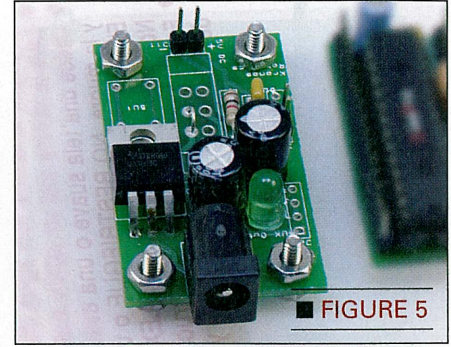

FIGURE 5
• **STEP 3:** Assemble the Kronos Robotics five-volt regulator board and attach it to the base. To do this, place the regulator on the base and mark the location of the four holes. Drill four 5/32 holes on the marks, then install #4 machine screws and nuts as shown in Figure 5. Next, slip the regulator over the screws and add four more as shown in Figure 6.